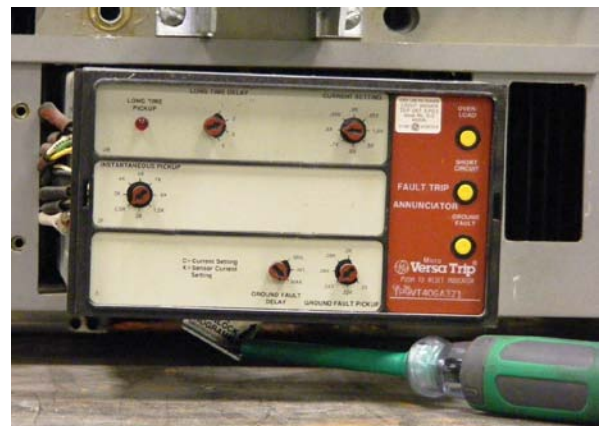

FIGURE 12, Pull Lever to Release Existing Unit
5.3. Remove the existing solid state trip unit by pulling the release lever as indicated in figure 12.